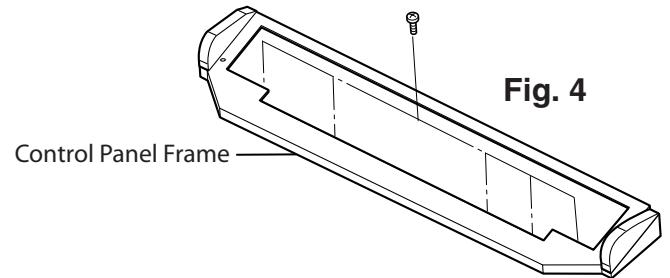

Fig. 4
10. Remove screws from Control Panel Frame (**Fig 4**).